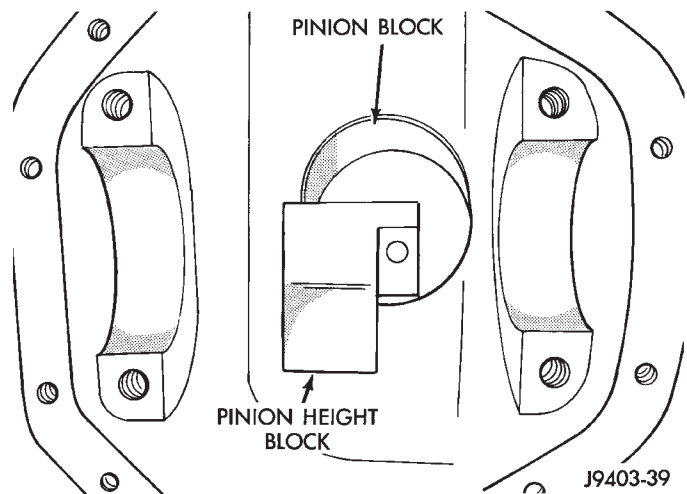

Fig. 57 Pinion Height Block—Typical
(2) Insert assembled height gauge components, rear bearing and screw into axle housing through pinion bearing cups (Fig. 57).